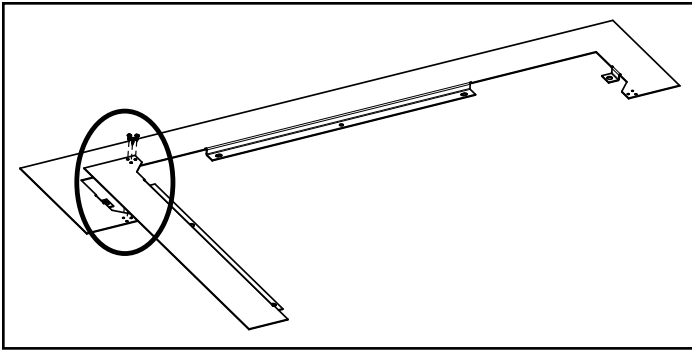

Figure 22.1
1. Align holes from Surround Extension RH Side and Surround Extension Top (**Figure 22.1**).
2. Using a Phillips head screwdriver and three (3) #8 x 1/2 Phillips head screws; secure Surround Extension RH Side to Surround Extension Top (**Figure 22.1**).